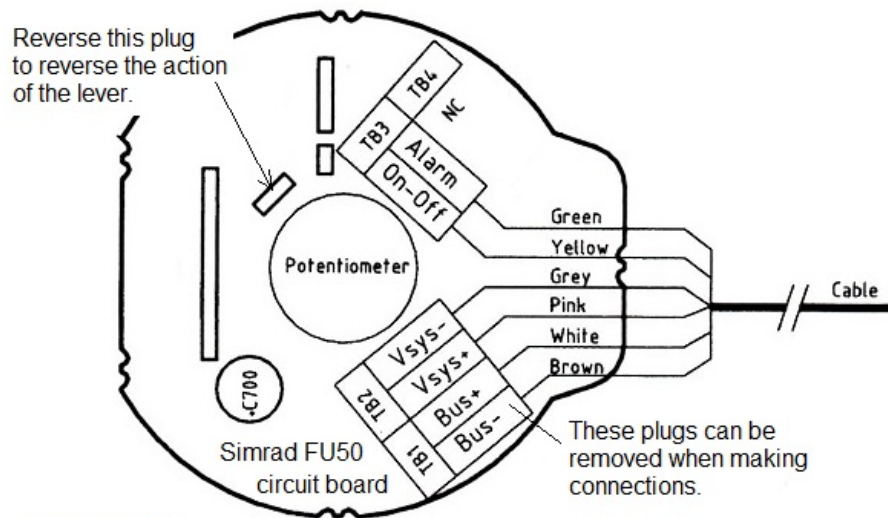

Figure 3 Helmsman RTC20S connections
- 3) Carefully locate the potentiometer connector as illustrated in figure 3. Reverse this plug 180 degrees and reinsert.